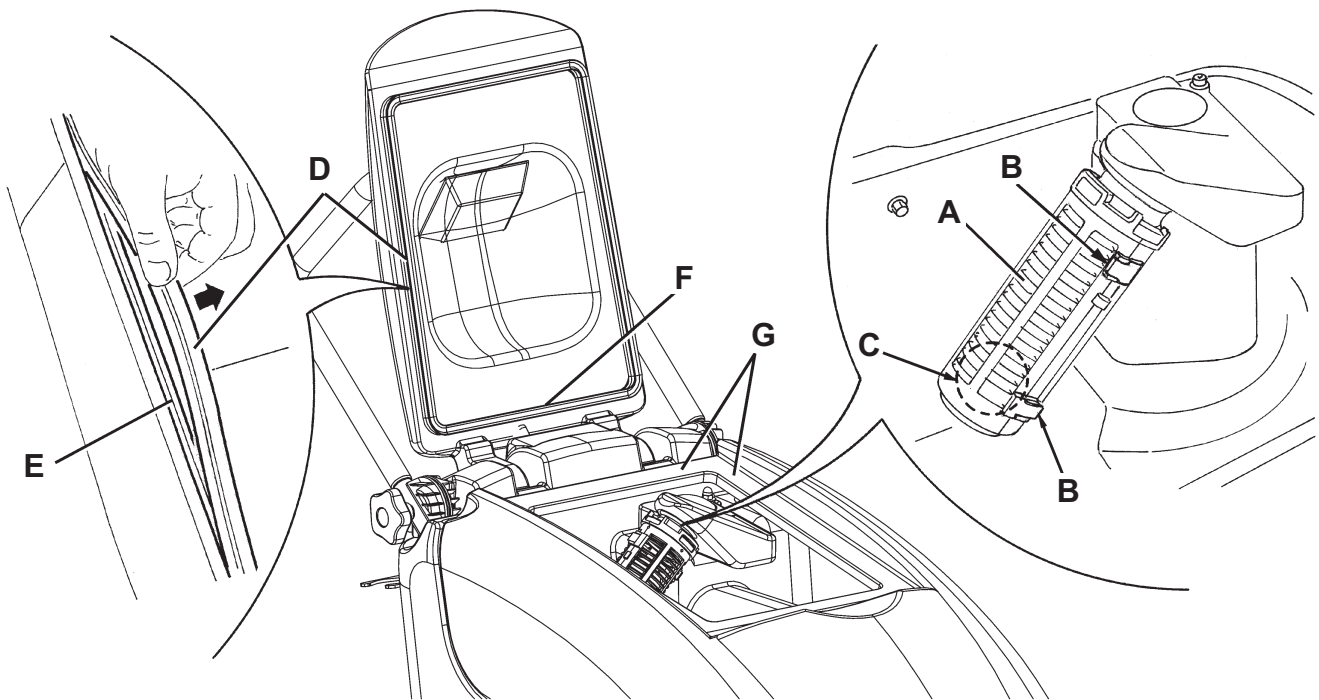

Figure 5
2. Make sure that the power supply cable (21) is disconnected from the electrical mains.
3. Open the cover (6), then clean and wash the cover, the tanks (26 and 27) and the vacuum grid (36) with clean water. Drain the water from the tanks with the drain hose (16) and the valve (18).
4. If necessary, release the fasteners (B, Fig. 5) and open the grid (A); recover the float (C), clean all the components and then reinstall them.
5. Check the recovery tank cover gasket (D) for integrity.